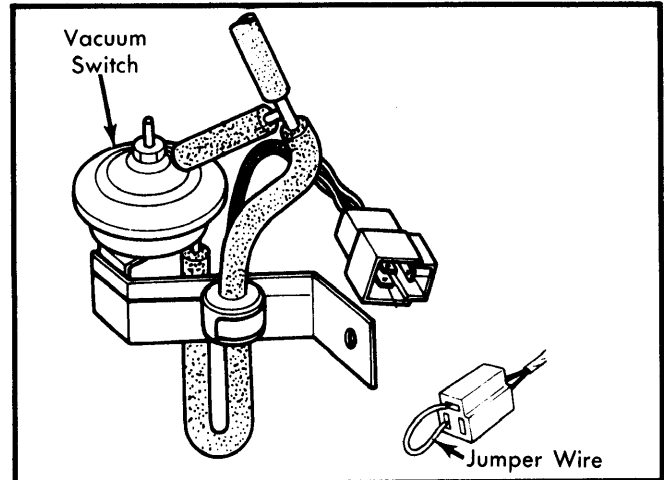

Fig. 4 Jumper Wire Connections for Testing Vacuum Switch Coupler (Exc. Federal Man. Trans. Models)
5) Start engine with choke knob pulled fully out. Note voltmeter to ensure current is reaching solenoid terminal. Push choke knob back into position. Place jumper wire on vacuum switch connector as shown. See Fig. 4.